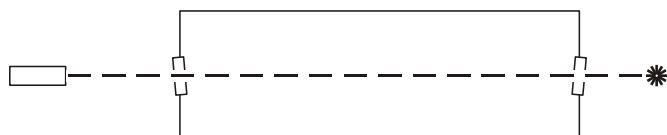

Figure 99: Direct alignment laser through laser cavity
1. Direct the visible alignment laser from the rear through the center of the laser cavity (see Figure 99).